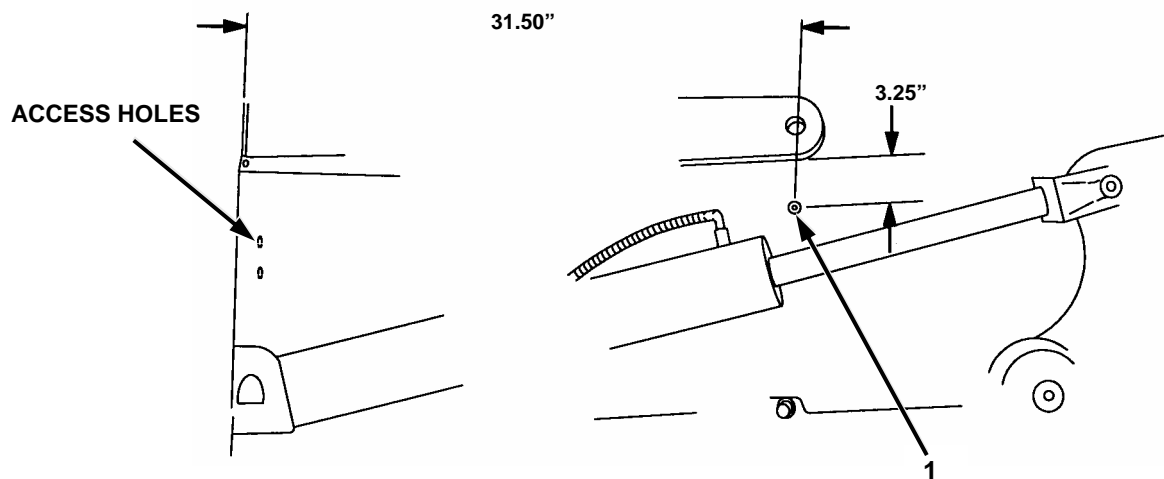

Figure 2-13. Blade Folder Hose Boss.
4. Weld boss 12352658 (Figure 2-13, 1) to hull on right side of vehicle in accordance with TM 5-2350-262-34, General Welding Procedures.